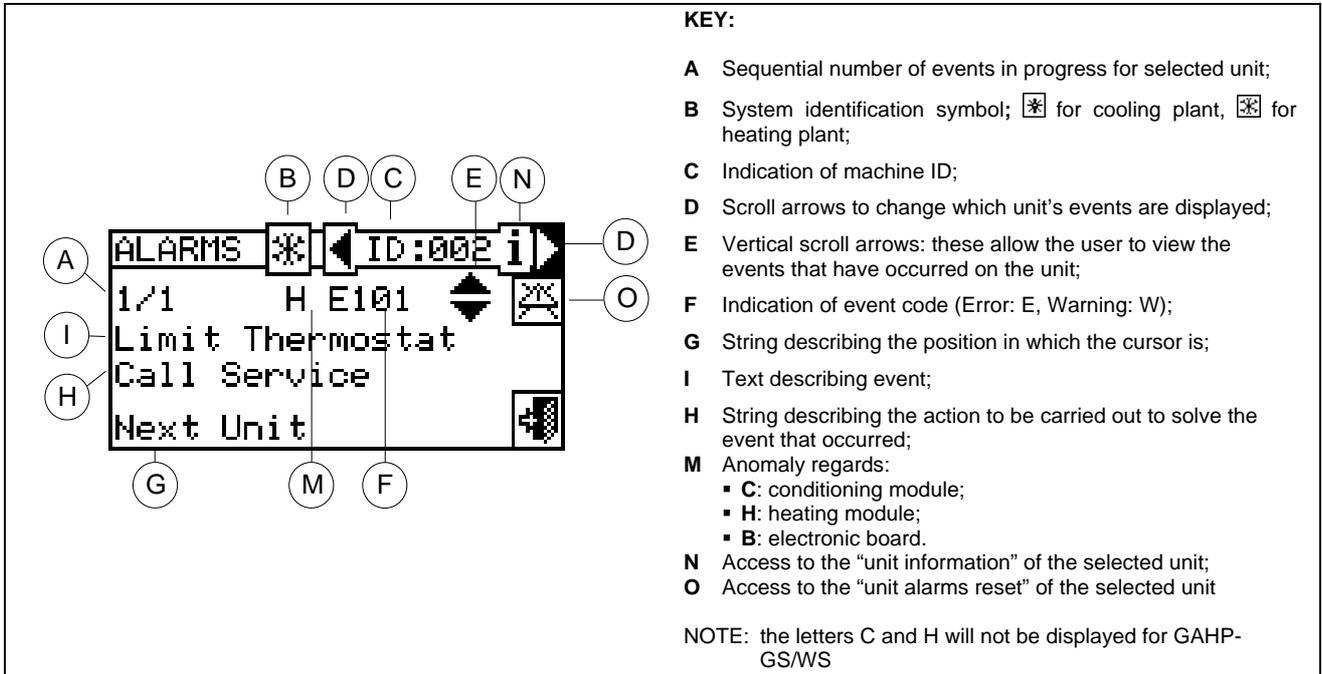

Figure 5 – EXAMPLE OF ALERTS MENU SCREEN
- 4 - To search for the unit in which errors have occurred select  (detail "D" in Figure 5). If no error has occurred, the message "No error" appears.
- 5 - Use the vertical scroll arrows  (detail "E" in Figure 5) to view all the events present on the unit.